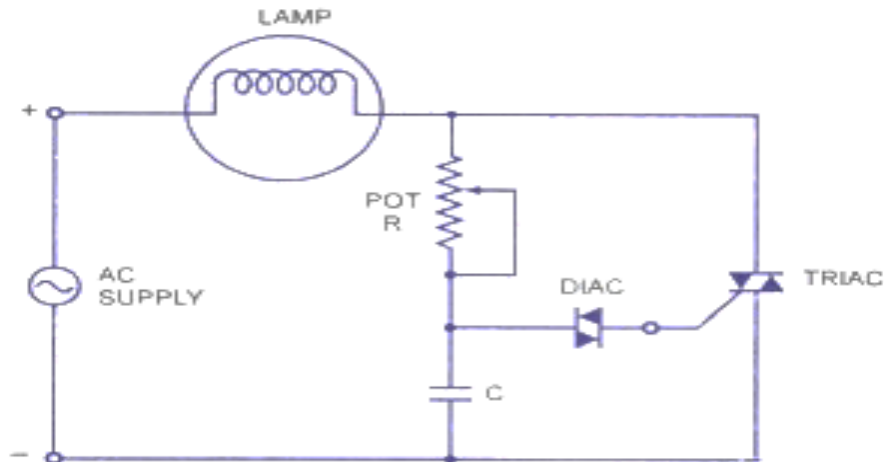

Figure 5.11: Example Circuit Using DIAC
- The circuit for a TRIAC controlled by an R-C phase-shift network and a DIAC is given in Figure 5.11.